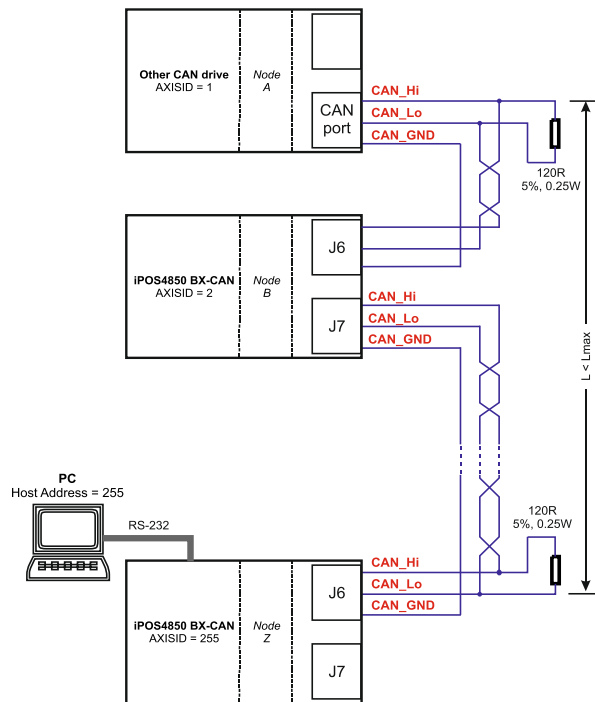

Figure 0.22. Multiple-Axis CAN network
- The CAN network requires a 120-Ohm terminator. This is not included on the drive. **Figure 0.22** shows how to connect it on your network